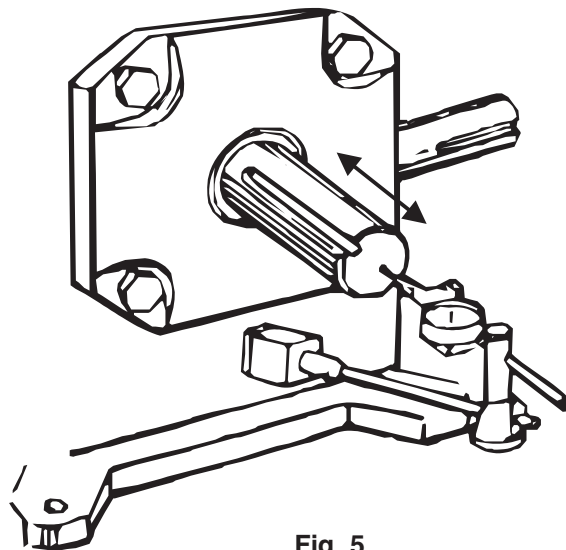

Fig. 5
- C. Moving the shaft back and forth by hand, check axial float with dial indicator as shown in Figure 5. Axial float must be .0005 - .003" with .0005 being the absolute minimum. Do not preload bearings. If the axial float is not as specified, add or subtract required shims under end cover or behind bearing outer race, inside the cover, depending on the unit.